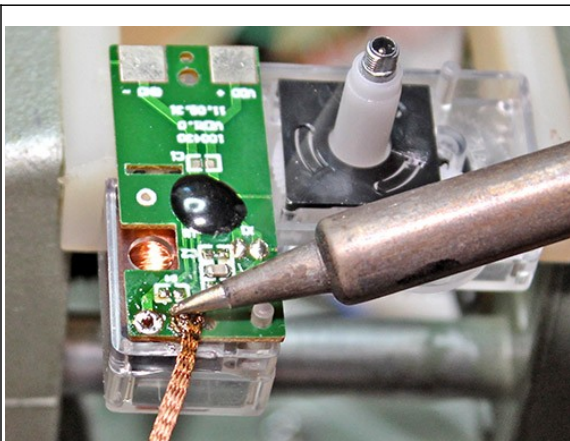

Fig. 39: Removing solder with desoldering braid.
- ☐ If you're using desoldering braid, place it on the solder around one terminal, then heat the braid with your soldering iron. The hot braid will melt the solder and wick it away from the terminal; see **Fig. 39**. Work quickly to avoid melting the plastic that holds the terminals beneath the PCB.